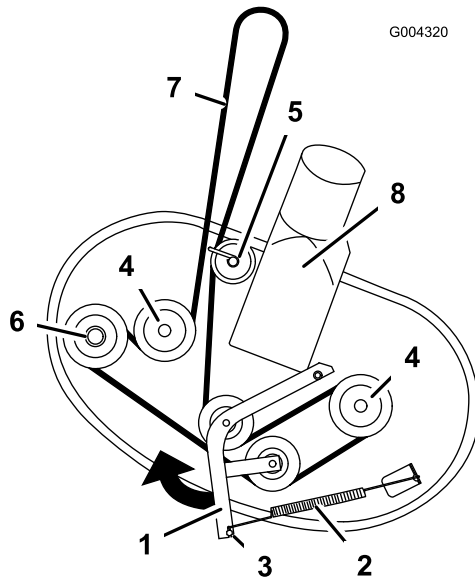

Figure 59
5. Loosen fastener securing the belt guide to the rear pulley (Figure 59).
6. Pull the idler arm in the direction shown in Figure 59 and roll the belt off of the pulleys.
7. Route the new belt around the engine pulley and mower pulleys (Figure 59). Install the new belt under the belt guide and around the rear pulley.
8. Pull the idler pulley in the direction shown in Figure 59 and route the belt onto the idler arm pulley and spindle pulleys (Figure 59).
9. Tighten the belt guide fastener on the rear pulley (Figure 59).